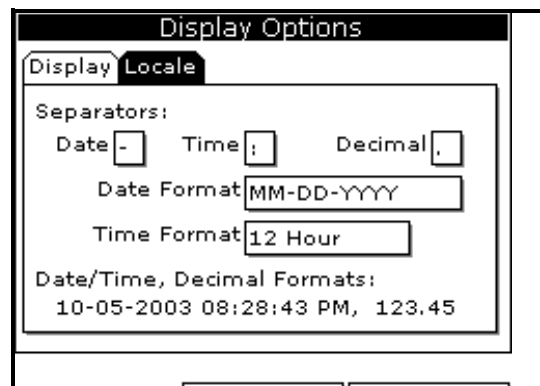

Figure 19: Locale Tab
3. Use the arrow key to scroll to Locale and press **[ENTER]**. A screen similar to Figure 19 appears.